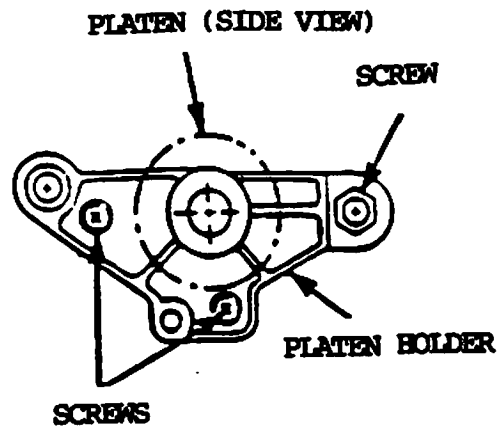

Figure 4-3 Platen Holder Screws
4. If the gap needs to be adjusted, loosen the platen holder's three screws on either side of the frame (see Figure 4-3). Turn the eccentric bushing on the front screw. When the correct gap has been obtained, hold the bushing in position while tightening the screw. Then tighten the other two screws.